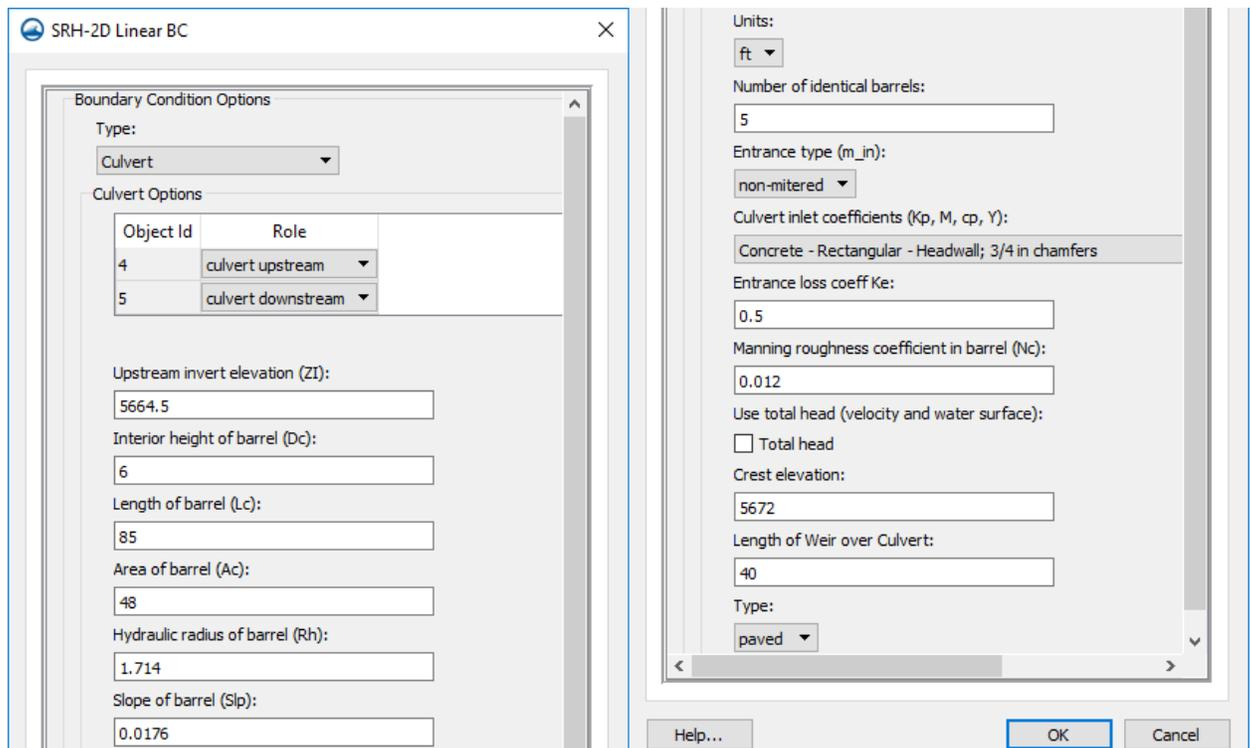

Figure 4 Culvert Parameters
6. Define the culvert and crossing attributes as found in Table 1. When done the dialog should resemble Figure 4.